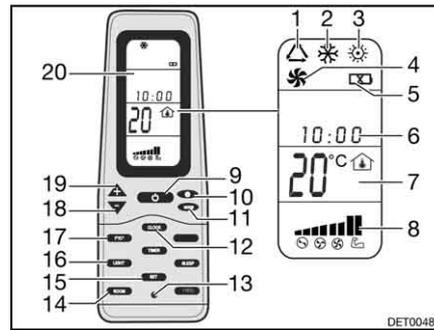

Fig. 134 Remote control
- Press the ON/OFF button (Fig. 134,9).
- Press the "Mode" button (Fig. 134,11) as often as required until the required mode (Fig. 134,1, 2, 3 or 4) is indicated on the display (Fig. 134,20).
- Use the "+" (Fig. 134,19) and "-" (Fig. 134,18) buttons to set the desired temperature.
- Use the fan speed button (Fig. 134,10) to select the desired fan level.